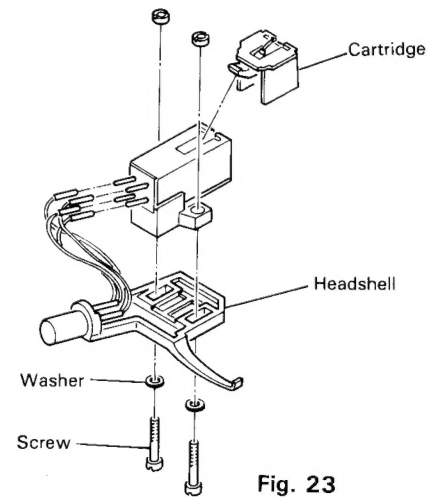

Fig. 23
## 5-(2) Mounting Cartridge (Type A) (Fig. 23)